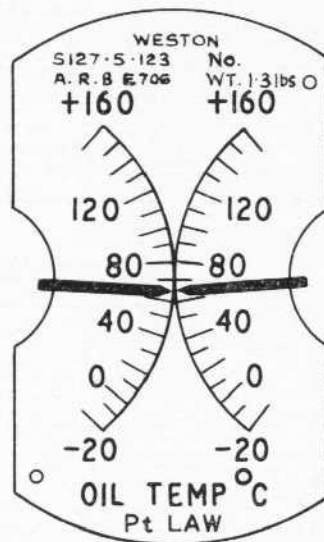

Fig. 1. Indicator, Type S127.5.123
1. The dual temperature indicator, Type S127.5.123 (fig. 1) is calibrated in deg. C from -20 to 160 on each of the two scales. The deflection of each pointer is controlled by the variation of resistance of an externally connected platinum law resistance thermometer element. The two indicator movements are each designed as a ratiometer.